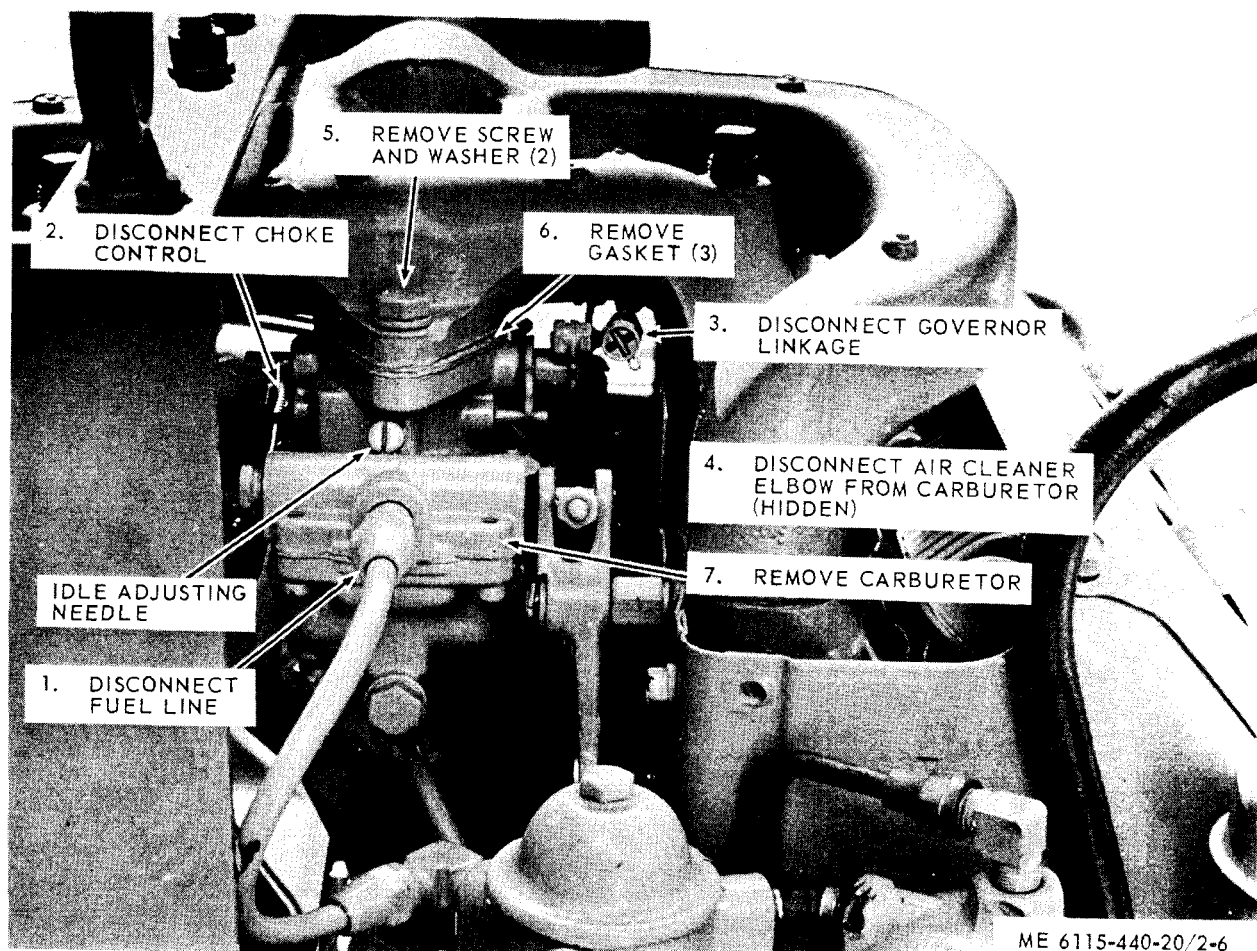

Figure 2-6. Carburetor, removal and installation.
b. *Removal.* Refer to figure 2-6 and remove the carburetor.
(1) Inspect the carburetor for damage or leaks.
(2) Inspect the choke control assembly for damage or broken cable. Replace a defective choke cable.
d. *Installation.* Refer to figure 2-6 and install the carburetor.